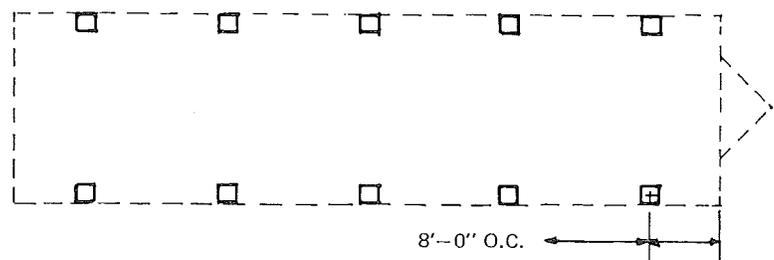

Figure 1
Chassis supports must be installed under both ends of the frame not more than one foot from the ends and immediately ahead and behind the spring hangers under each beam. Additional supports must be installed under each beam so that spacing between adjacent supports will not exceed 8 feet. (See Figure 1, A)
The perimeter blocking of home with outriggers on eight (8) foot centers is required in addition to the blocking shown on Figure 1, A. Each perimeter location is marked on the underside of the unit with a factory painted mark. The proper pier locations can be verified by the homeowner by observing the factory installed outriggers (8' O.C.) and checking for perimeter piers centered between them. The perimeter piers shall each be capable of supporting 900 pounds for the South and Middle Zones and 1,200 pounds for the North zone. See supplemental Perimeter Placement Drawing provided for your use below. (See Figure 1, B)
Chassis supports must be installed under both ends of the frame not more than one foot from the ends. Spacing between supports under the outside frame members must not exceed 8 feet. See Figure 1, B)